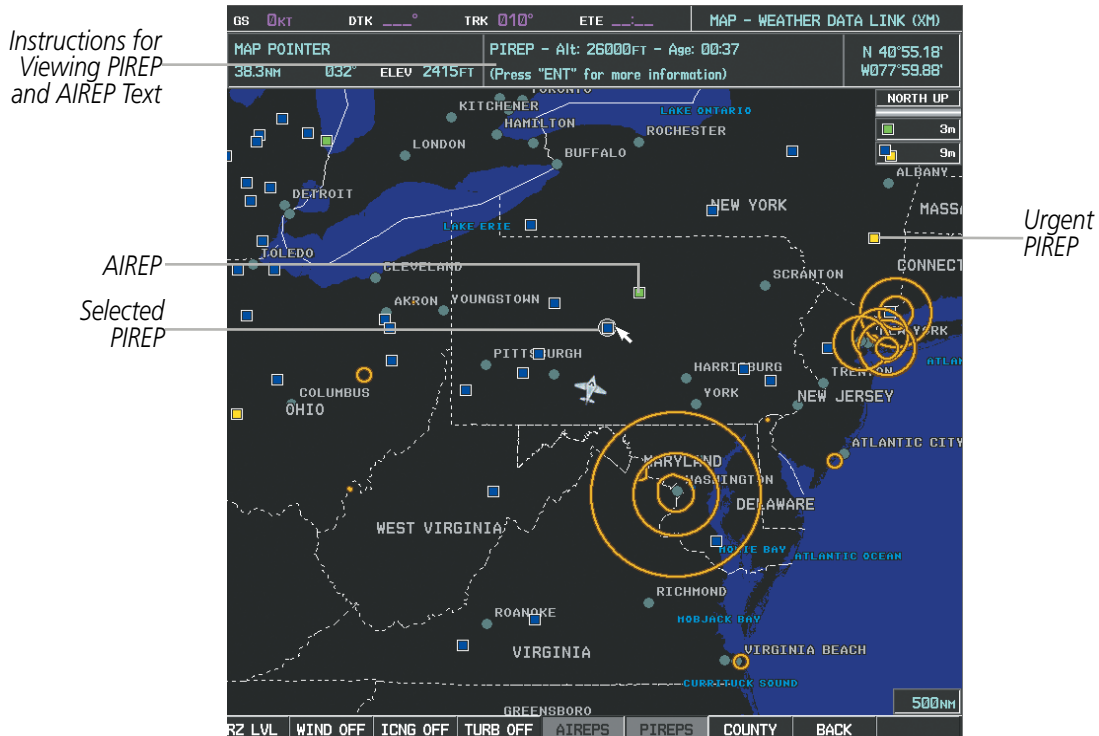

Figure 6-46 AIREPs and PIREPs on the Weather Data Link (XM) Page
Pilot Weather Reports (PIREPs) (Figure 6-46) provide timely weather information for a particular route of flight. When significant weather conditions are reported or forecast, Air Traffic Control (ATC) facilities are required to solicit PIREPs. A PIREP may contain adverse weather conditions, such as low in-flight visibility, icing conditions, wind shear, and turbulence. PIREPs are issued as either Routine (UA) or Urgent (UUA).